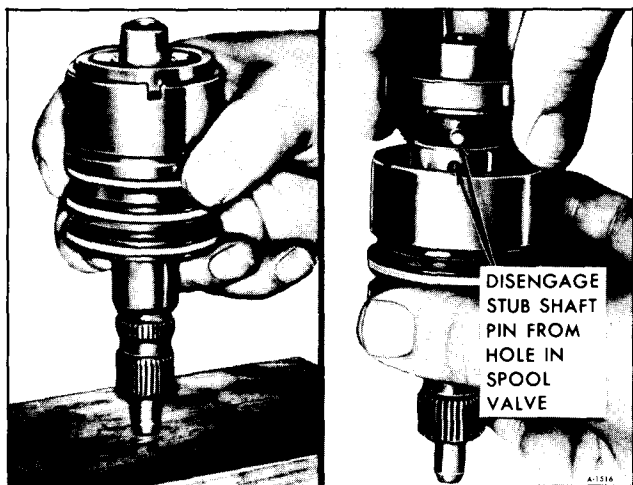

Figure 36—Removing Shaft Cap from Valve Body
a. While holding the assembly (stub shaft down), lightly tap the stub shaft against the bench until the shaft cap is free from the valve body (figure 36).
c. Carefully disengage the shaft pin from the valve spool and remove the shaft assembly (figure 36).